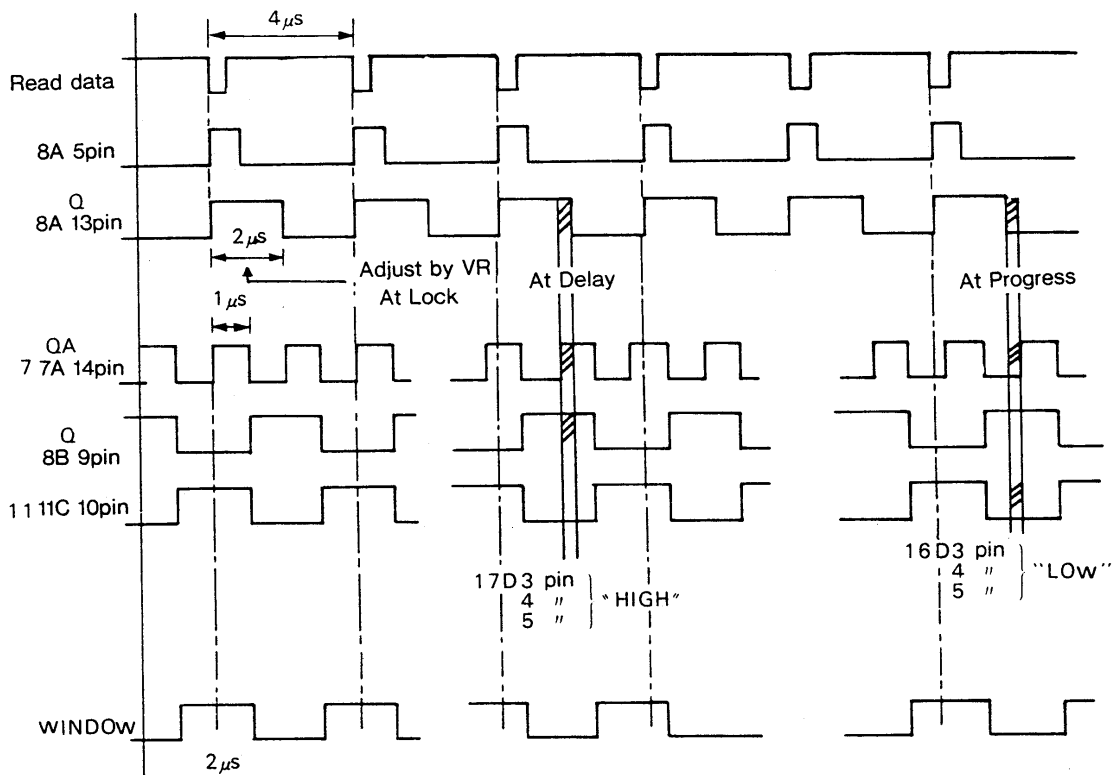

Fig. 2-23 Timing Chart of VFO Circuit on TFX Board
Fig.2-23 shows the waveforms at various points.
The trailing edge timing of read data is output in pulse from pin 5 of 8A by the operation of the one-shot multivibrator. From pin 13 of 8A, one-shot pulse with 2μ s pulse width from the reading edge of pin 5 of 8A is output as shown in Fig.2-23.
The multivibrator of 10B vibrates at 1MHz, and a clock output of 1μ s pulse width is made from pin 14 (QA) of 7A as shown in Fig.2-23. Pin 9(Q) of 8B latches the state of pin 13 of 8A at the trailing edge of QA pulse.